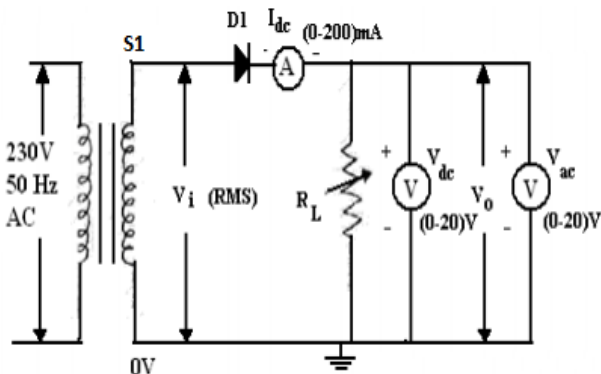
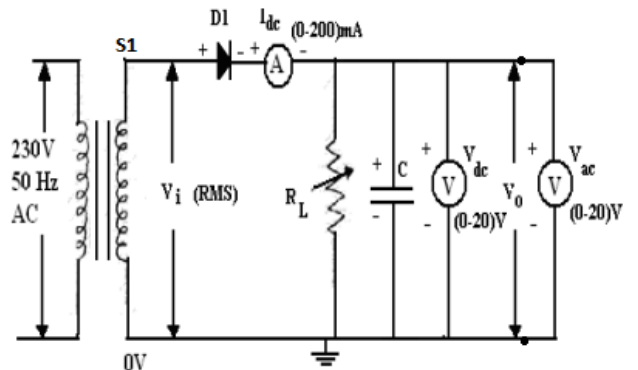
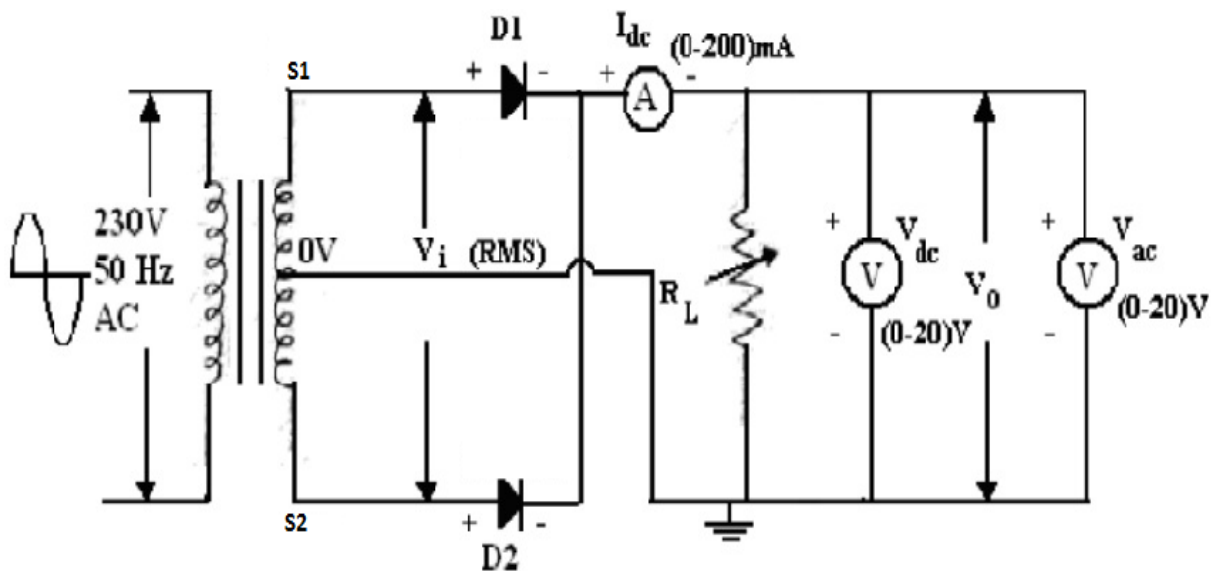
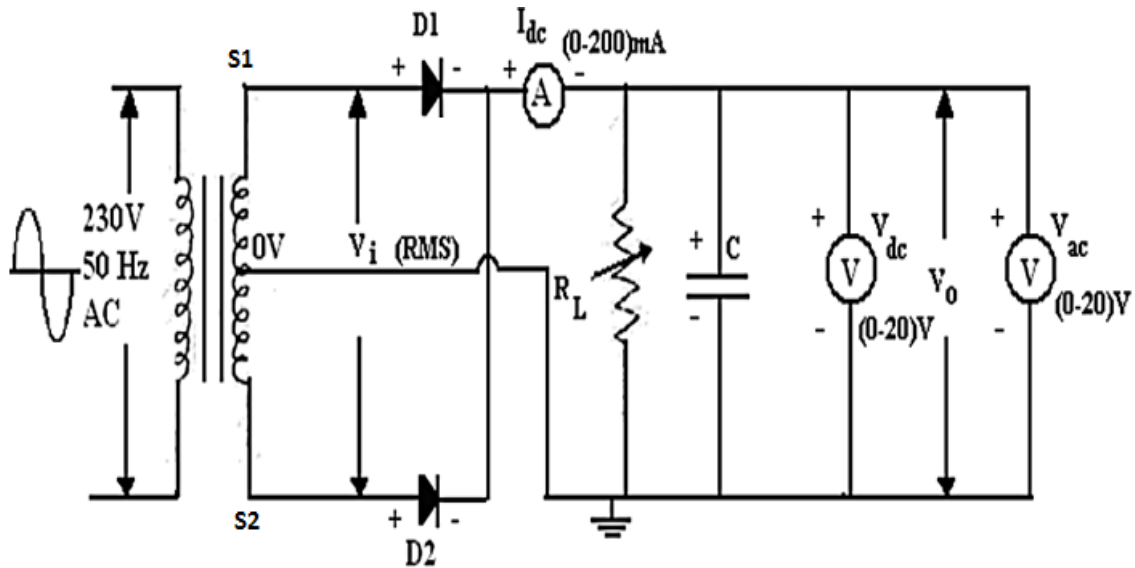

Fig.3. Half –Wave Rectifier without Capacitor
Fig.4. Half –Wave Rectifier with Capacitor
Fig.5. Center-Tap Full- Wave Rectifier without capacitor
Fig.6.Center-Tap Full- Wave Rectifier with capacitor
- Assemble the circuit according to Fig. 3. for half-wave and Fig. 5. for full wave without capacitor and Fig. 4. for half- wave and Fig. 6. for full wave with capacitor with $R_{load} = 100\Omega-2K\Omega$. Use the 6-0-6 Vrms output of the transformer.